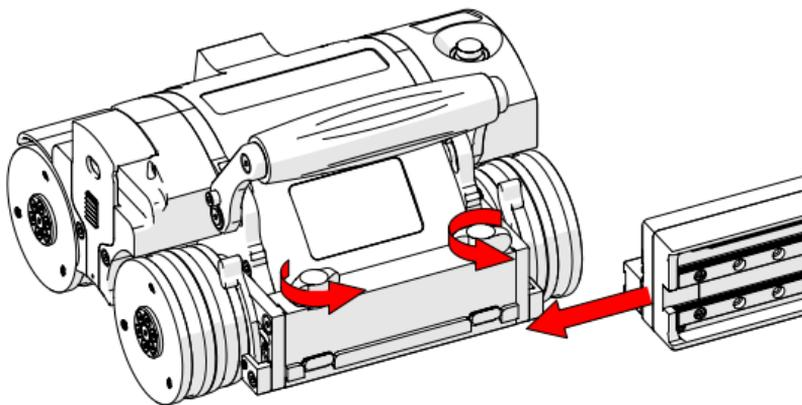

Fig. 39 - Slide onto one swivel mount
1. Loosen the two black wing knobs, and slide the raster arm’s mounting rail onto the dovetail jaws of the crawler (Fig. 39).